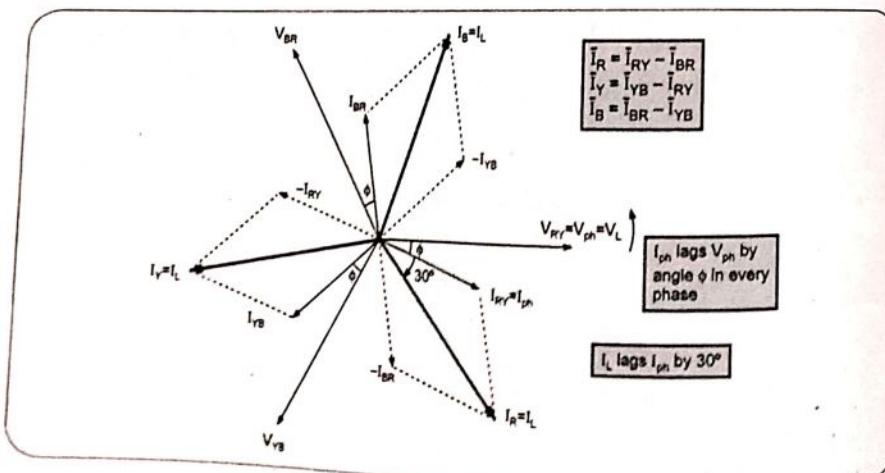

Fig. 4.10.3
- The complete phasor diagram for  $\cos \phi$  lagging power factor load is shown in the Fig. 4.10.3.